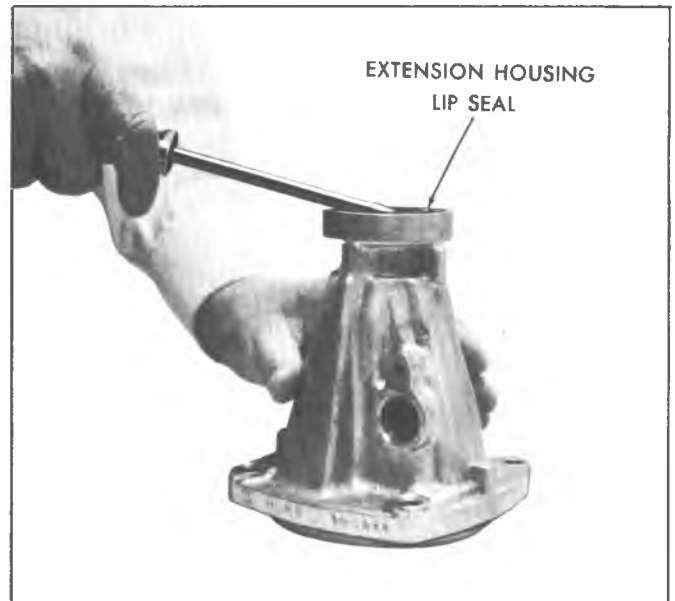

Fig. 4N--Removing Extension Housing Lip Seal
3. Remove extension housing lip seal using screw driver (fig. 4N).